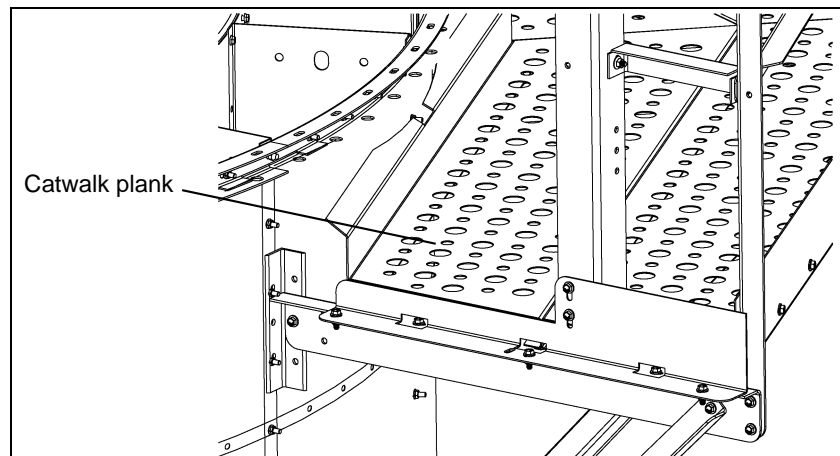

Figure 80 Catwalk plank with curved kick plate for use at stepover locations.
4. Attach the curved kick plates to the catwalk planks that will be used at the stepover sections immediately off of ladders. Curved kick plates are provided for safety purposes and help prevent feet or boots from slipping and getting wedged between the platform and the dryer wall. (See Figure 80.)